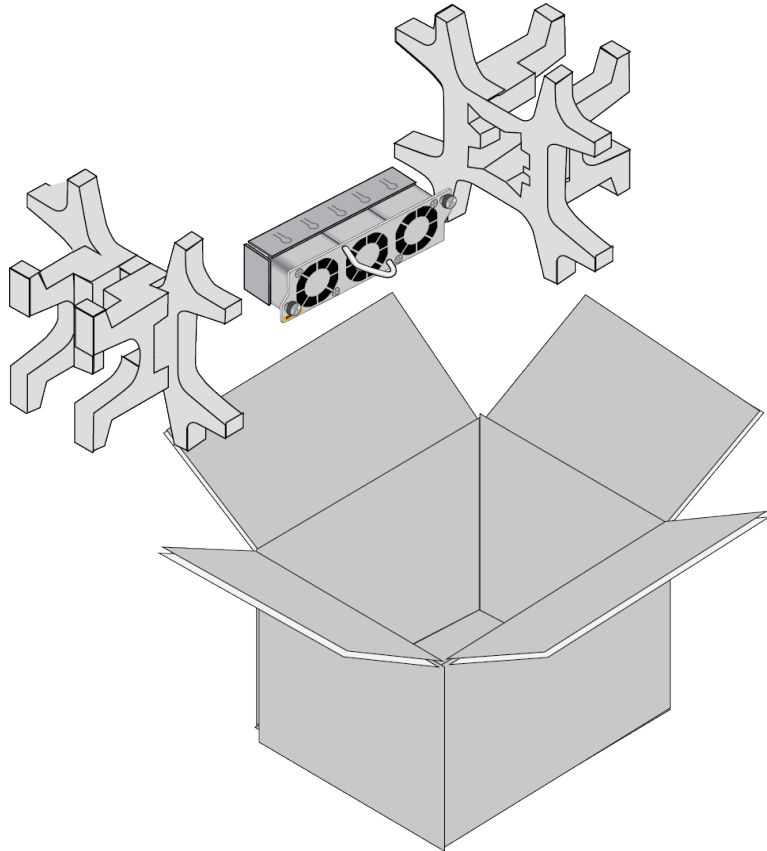

Figure 156. Removing the Fan Module from the Shipping Container
1. Remove the new fan module from its shipping box. Refer to Figure 156.